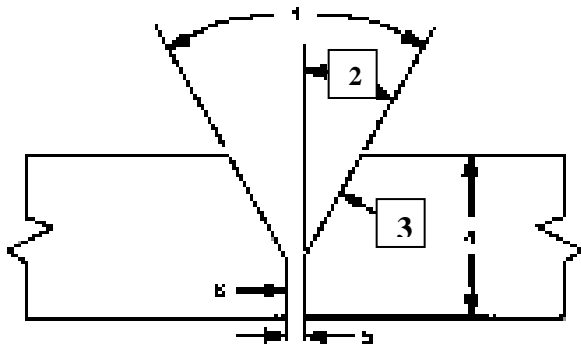

Figure 1
g. The bevel angle shown in **Figure 1** is labeled:
h. Number 3 shown in **Figure 1** is the: